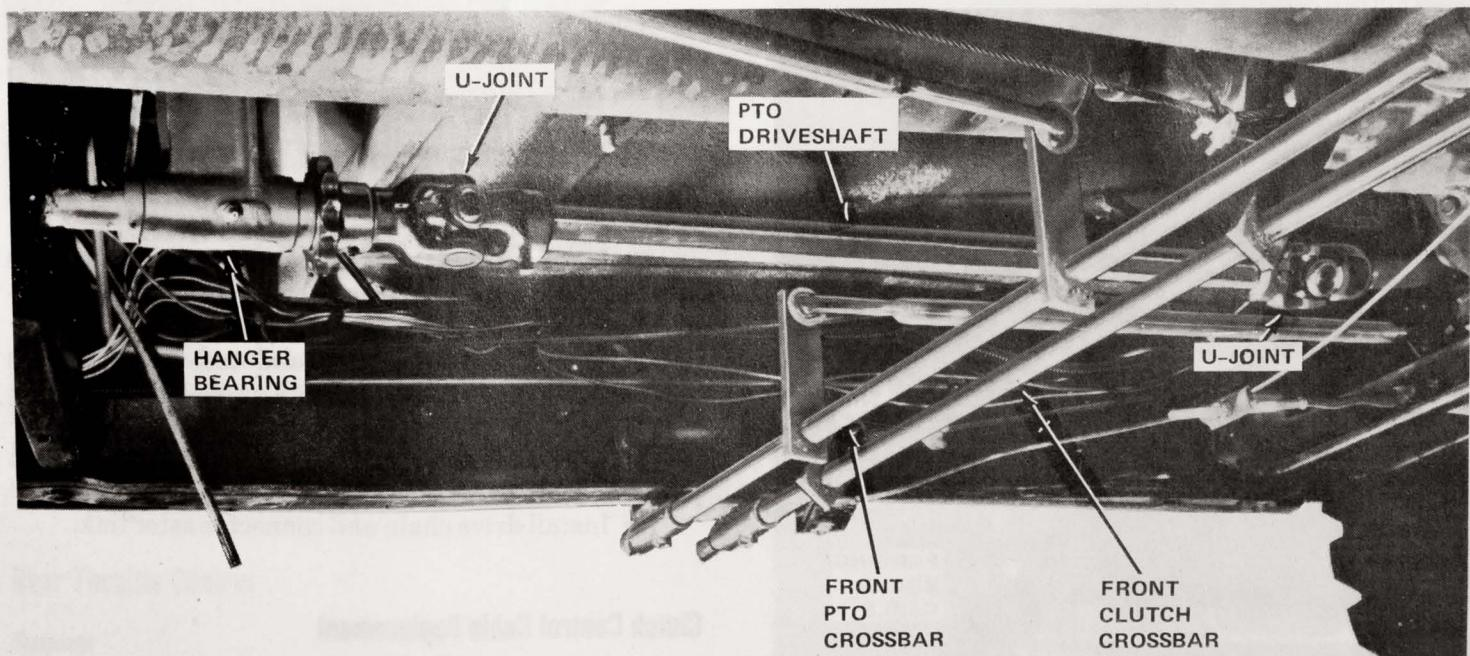
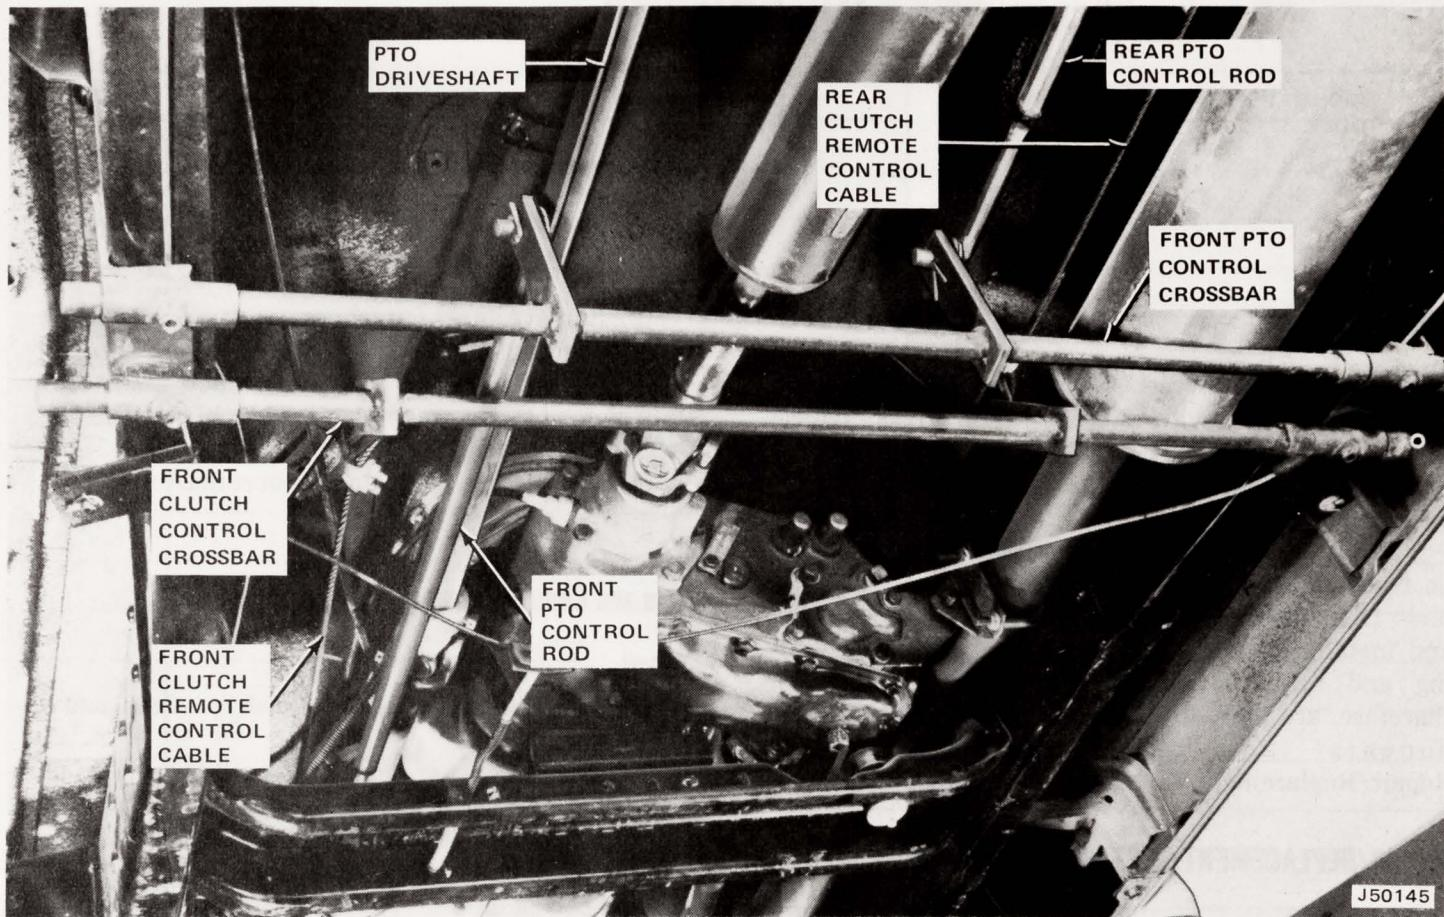

Fig. 10-1. Front Drive and Control Components.
Fig. 10-2 Power Takeoff Installation—Bottom View
(1) Disconnect master link in drive chain and remove chain.
(2) Remove hanger bearing (fig. 10-1) from mounting and from power takeoff drive shaft.
(3) Remove drive shaft from power takeoff unit.
(4) Remove U-joint and drive sprocket from hanger bearing unit.
(5) Remove front power takeoff control rod from power takeoff unit and front power takeoff control crossbar (fig. 10-2 and 10-3).